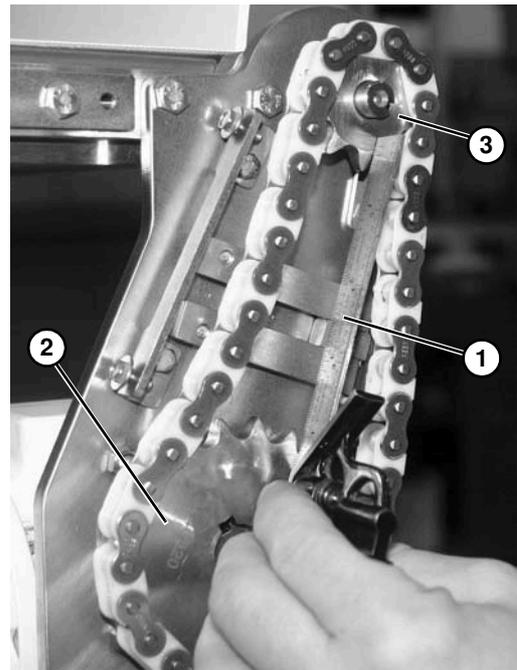

Figure 39
Using a straight edge (**Figure 39, item 1**), make sure drive sprocket (**Figure 39, item 2**) aligns with driven sprocket (**Figure 39, item 3**). Tighten drive and driven sprocket set screws (**Figure 40, item 1**).